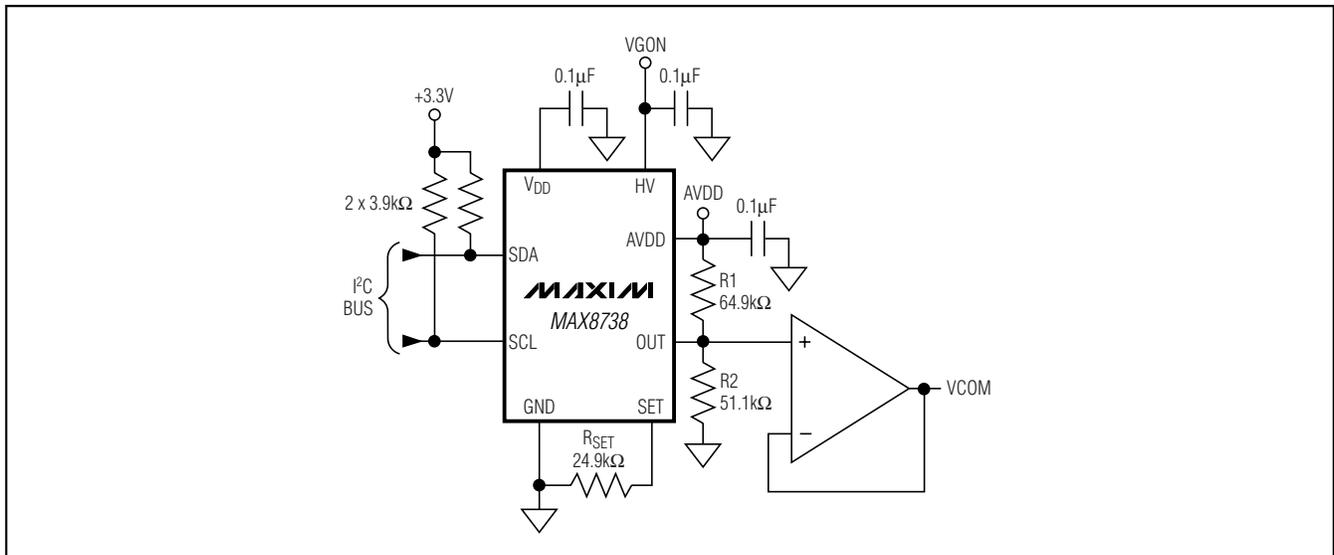
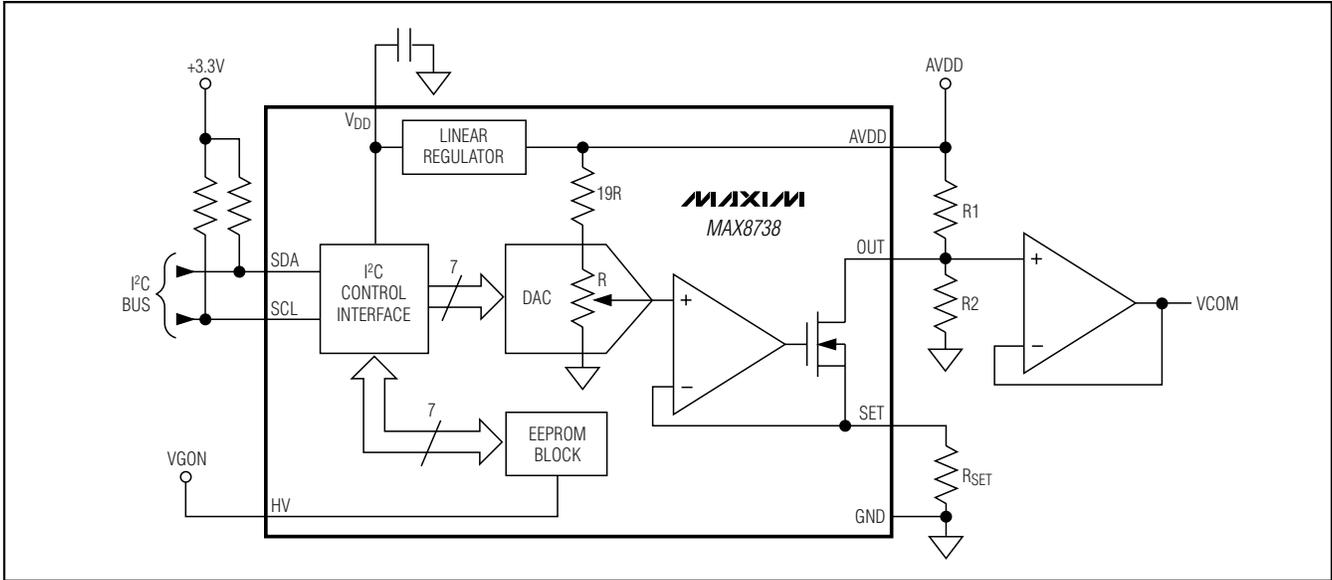

Figure 2. Standard Application Circuit
Figure 3. Simplified Functional Diagram
The MAX8738 is a solid-state alternative to mechanical potentiometers used for adjusting the LCD backplane voltage (VCOM) in TFT LCD displays. The MAX8738 attaches to an external resistive voltage-divider and sinks a programmable current (I_{OUT}), which sets the VCOM level (Figure 2). An internal 7-bit DAC controls the sink current and allows the user to increase or decrease the VCOM level (Figure 3). The DAC is ratio-metric relative to V_{AVDD} and is monotonic over all operating conditions. The user can store the DAC setting in an internal EEPROM. On power-up, the EEPROM pre-sets the DAC to the last stored setting. The 2-wire I²C interface between the LCD panel and the programming circuit adjusts the DAC and programs the EEPROM.
- 1) Place the VCOM buffer and the R1/R2 voltage-divider close to the OUT pin (Figure 2).